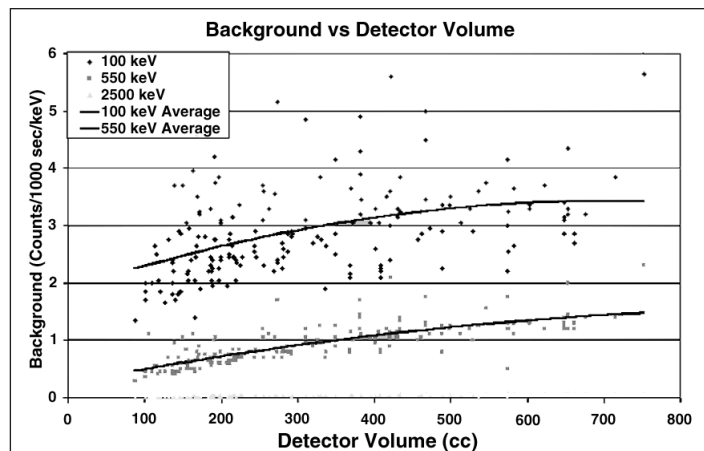

Figure 3. Background counts vs. detector volume for a large number of detectors.
- Does background increase as relative efficiency increases? Certainly, as the efficiency increases, the background increases, but data from a large number of all sizes of detectors shows clearly that the background increases less rapidly than the efficiency. Thus MDA improves on larger detectors. (Fig. 3) Cosmic background will also increase with increasing detector size, but will increase no faster than efficiency and thus MDA will improve. This background is the general background in the detector when no sample activity is present. As soon as a sample source with non-zero activity is presented to the detector, this will also add to the general background in the form of source induced background.